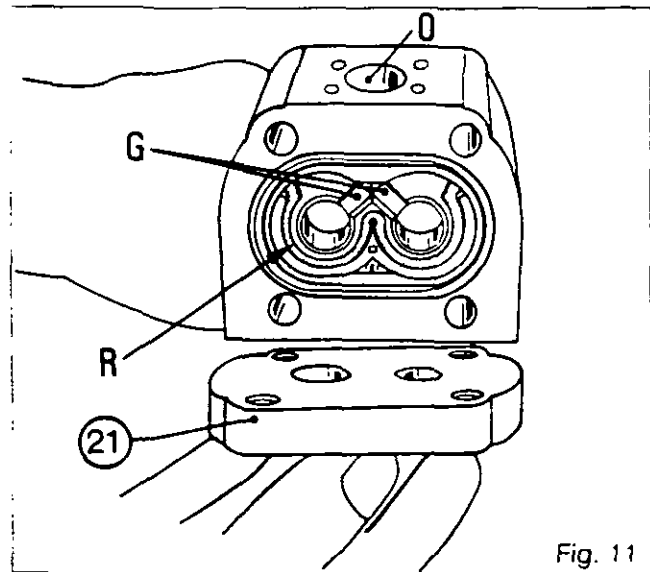
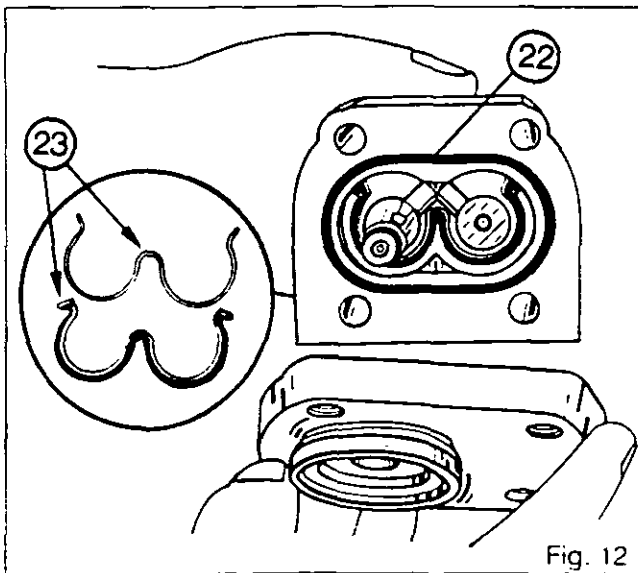
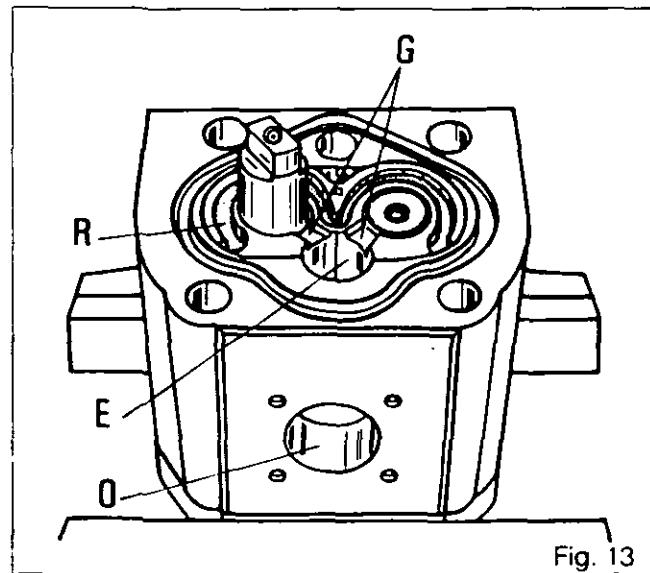

Fig. 11
Fig. 12
Fig. 13
73. Fit the bearing assembly (27) (without recess), located by the pin (24), in the high-pressure stage (32). Position the lubrication channels «G» towards the intake orifice «O», and the groove «R» of the composite seal (23) towards the plate (21) (Fig. 11).
74. Place the pinions (28) and (29) of the high-pressure stage in the bearing assembly (27).
75. Position the composite seal (23) and seal (22) (Fig. 12).
76. Assemble the high-pressure stage (32) on the flange (21) according to the marks made at the time of disassembly.
77. Fit the bearing assembly (31) (with recess), located by the pin (30), in the high-pressure stage (32). Position the lubrication channels «G» and the recess «E» towards the intake orifice «O», and the groove «R» of the composite seal (33) towards the top (Fig. 13).